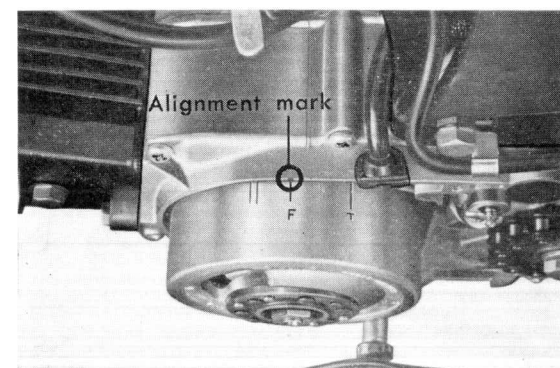

Figure 6-6. Aligning to the "F" mark
- Remove the left crankcase cover and align the "F" marking on the flywheel to the timing mark on the crankcase. In this position, check to make sure that the spark is produced across the spark plug points. (Fig. 6-6)